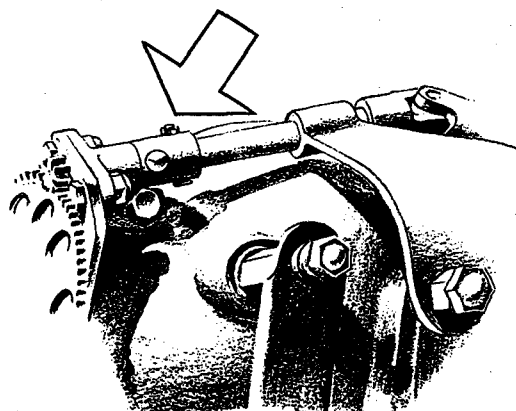

Figure 14—Pinion Gear, Shaft Connection
(7) Install the AN392-21 pin that connects the pinion gear universal to the control shaft and safety with a AN330-2-1 cotter pin. (See figure 14)